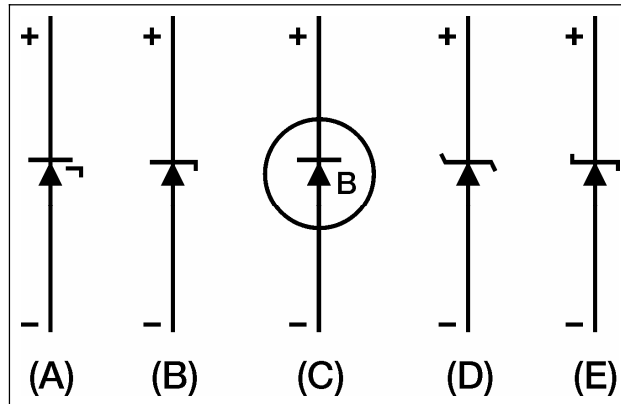

Figure 3-4. Schematic Symbols for Zener Diodes
3-14. See Figure 3-4, views (A) through (E) for some of the symbols used to represent Zener diodes. Notice that the polarity markings indicate electron flow is with the arrow symbol instead of against it as in a normal PN junction diode. This is because breakdown diodes are operated in the reverse-bias mode, which means that the current flow is by minority current carriers.